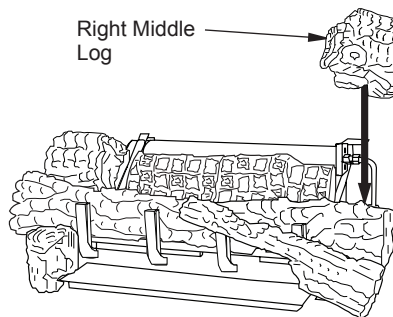

Figure 31 - Installing Right Middle Log
7. The right middle log (18" D-067, 24" & 30" D-041) has a groove on the bottom to sit on the chassis and has to sit on the tab on the back of the right front. The right middle log should have a recess area that fits around the ramp log as shown in **Figure 31**.